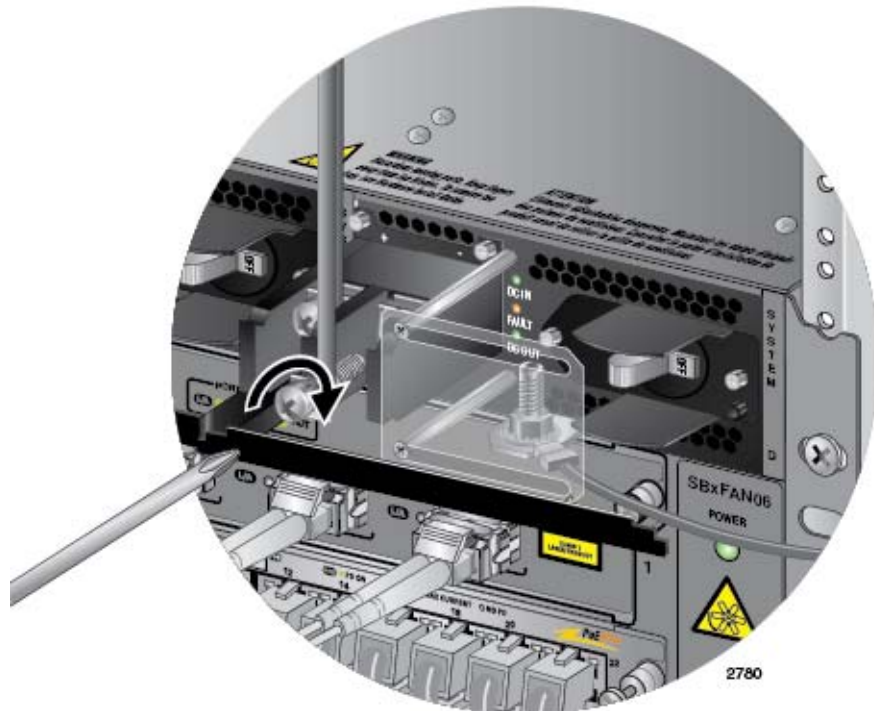

Figure 140. Connecting the Negative Lead Wire
6. Wrap the negative lead wire clockwise around the remaining terminal screw and secure the screw and wire to the negative terminal connection on the terminal block with a #3 Phillips-head screwdriver, as shown in Figure 140 on page 197. The negative terminal is on the right.